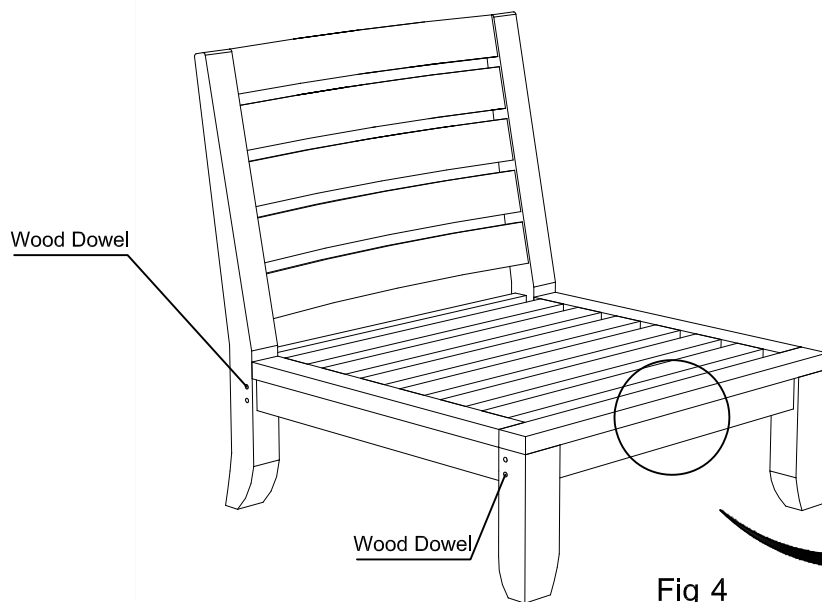
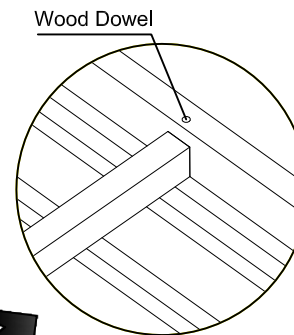

Fig 4
Fig 5
4. Put some glue around the wood dowels and insert it into the back support, front leg and seat support (Fig. 4 & Fig 5)